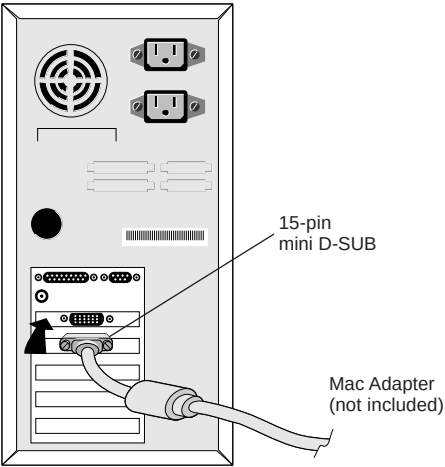

Figure A.1
2. **For the PC:** Connect the 15-pin mini D-SUB of the appropriate signal cable to the connector of the display card in your system (Figure A.1). Tighten all screws.